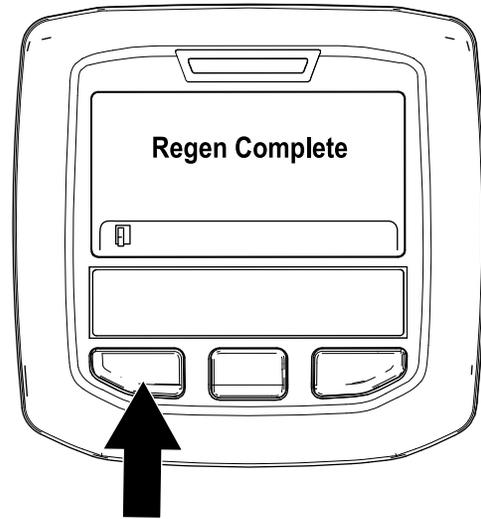

Figure 50
9. The parked regeneration is complete when the “Regen Complete” message displays in the InfoCenter. Press the left button to exit to the home screen (Figure 50).